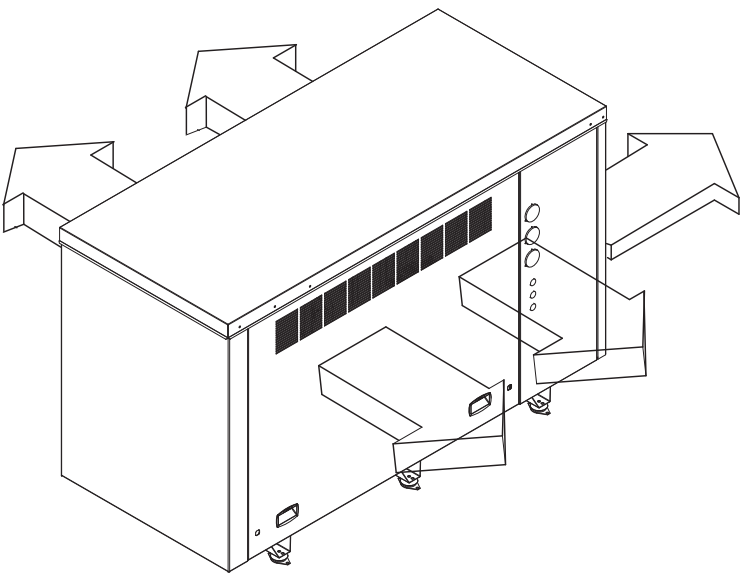

Fig.1
- Ensure that the spaces around the air suction and exhaust grids of the machine are not blocked or reduced in size in any way. Minimal distance 1000 mm (fig. 1 and fig. 2).